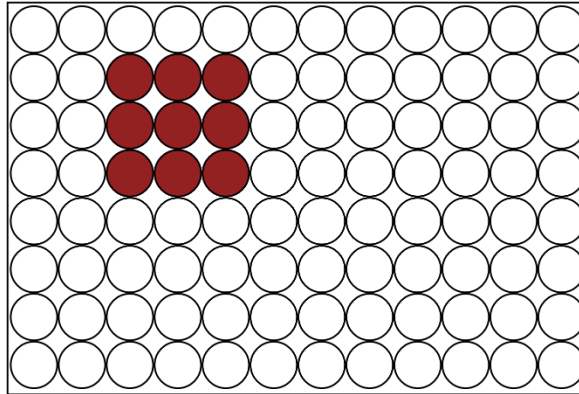

Figure 3. Well plate 2
- c. The placement of the samples is depicted in Figure 3.